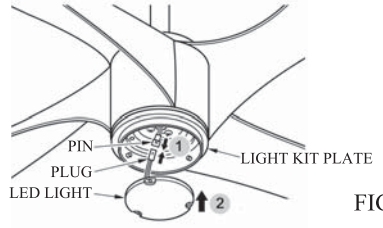

FIG.19
4. Plug together light kit wires from fan to light kit wires from LED light. ( See Fig.19 )